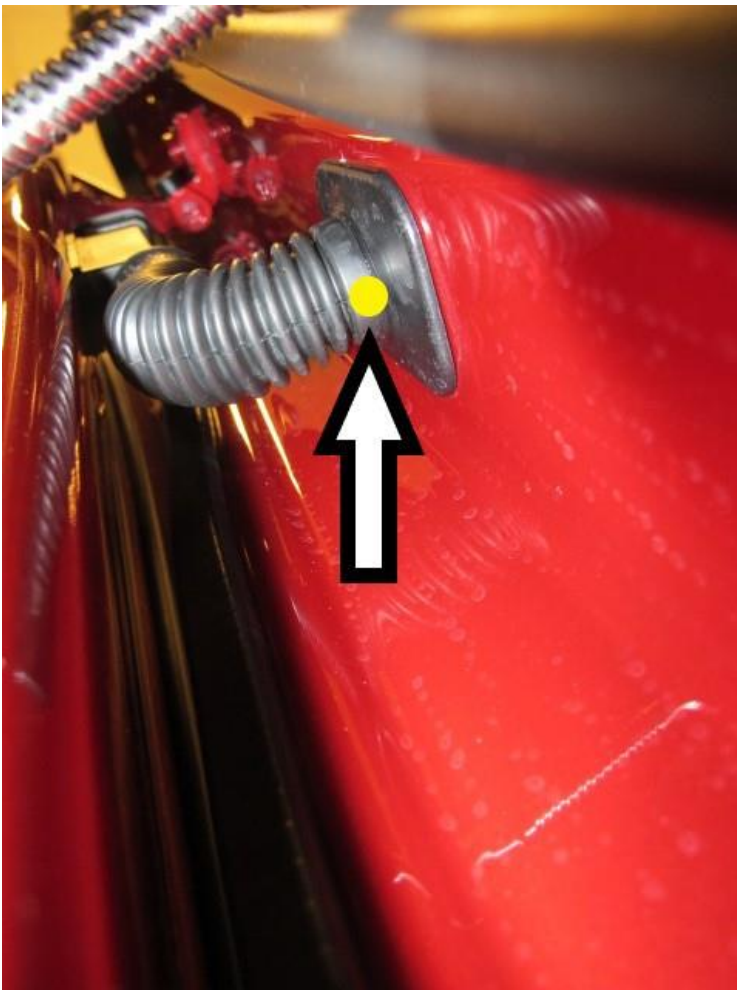

Figure 10
9) Apply a yellow paint completion mark on the underside of the left hand rear door harness grommet (Figure 10)
Yellow paint completion mark at the location shown in Figure 10